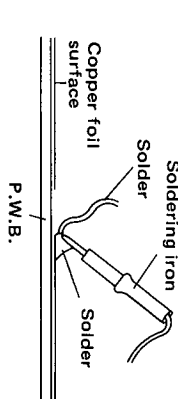

Figure 20-5
- Temporarily solder one terminal of the tip on the copper foil surface. See Fig. 20-5.